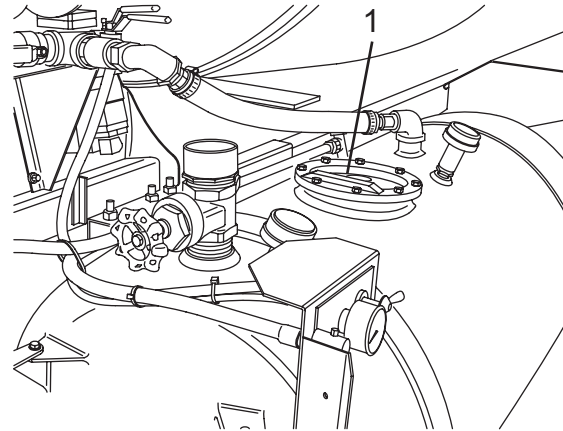

Figure 88
2. Place the water supply hose in the water tank flopper valve (Figure 88, Item 1) and fill the tank.